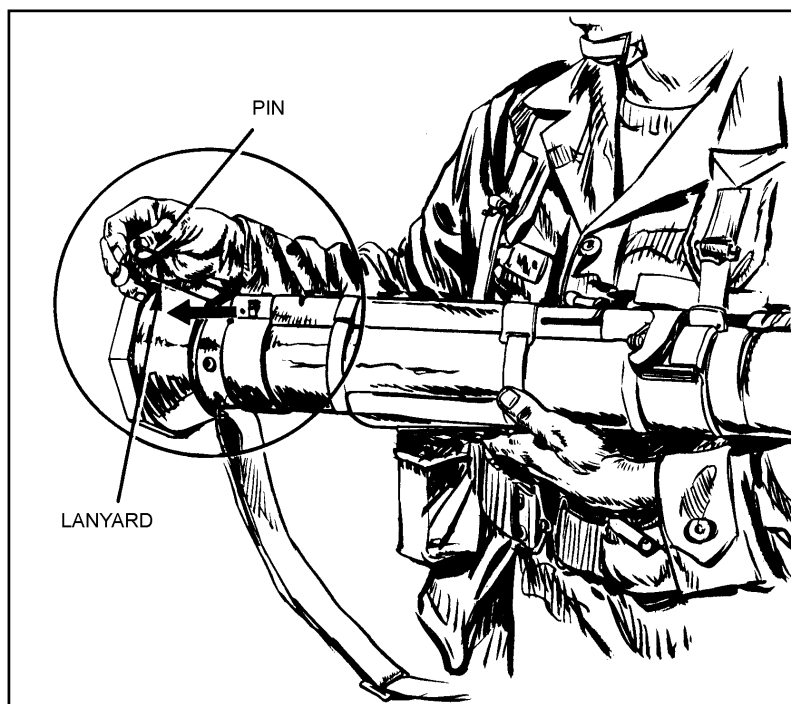

Figure 3-13. Removing the transport safety pin.
b. With your right hand, pull and release the transport safety pin (Figure 3-13). This pin is important—you must reinsert it if you do not fire the launcher. Therefore, unless it is attached to the launcher with a lanyard, you must keep it in a safe place.